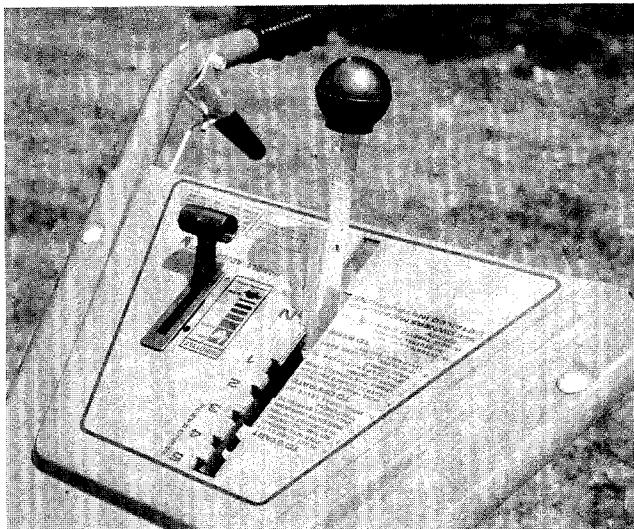

FIGURE 14.
1. Forward (1 thru 5)—Move the lever to the left and forward for each gear. See figure 14.
1. Place the gear shift lever in "NEUTRAL" (N) position. See figure 14.